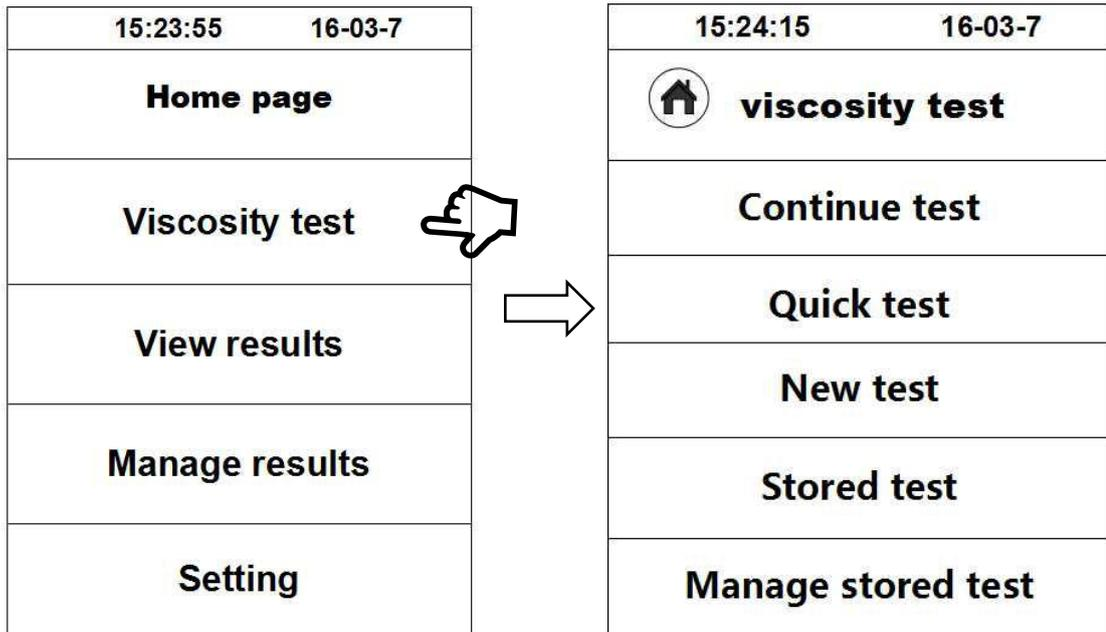

Fig. 18
1.1 Click “Viscosity test” to enter the interface of viscosity test (Fig. 18) which has 5 options: